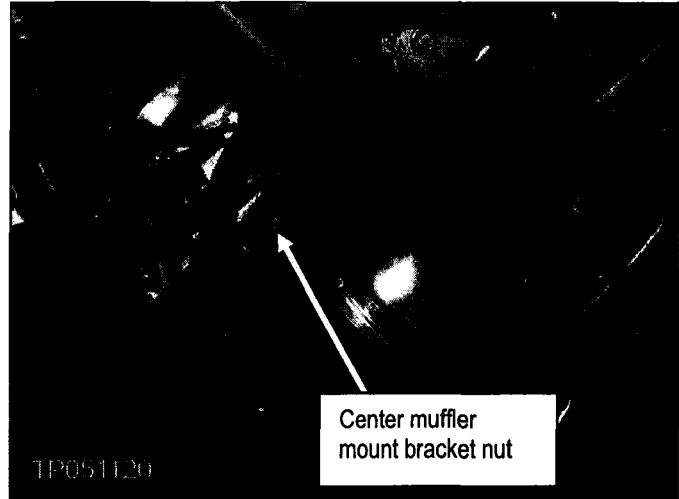

Figure 6
6. Remove the nut that holds the center muffler mount bracket (see Figure 6).